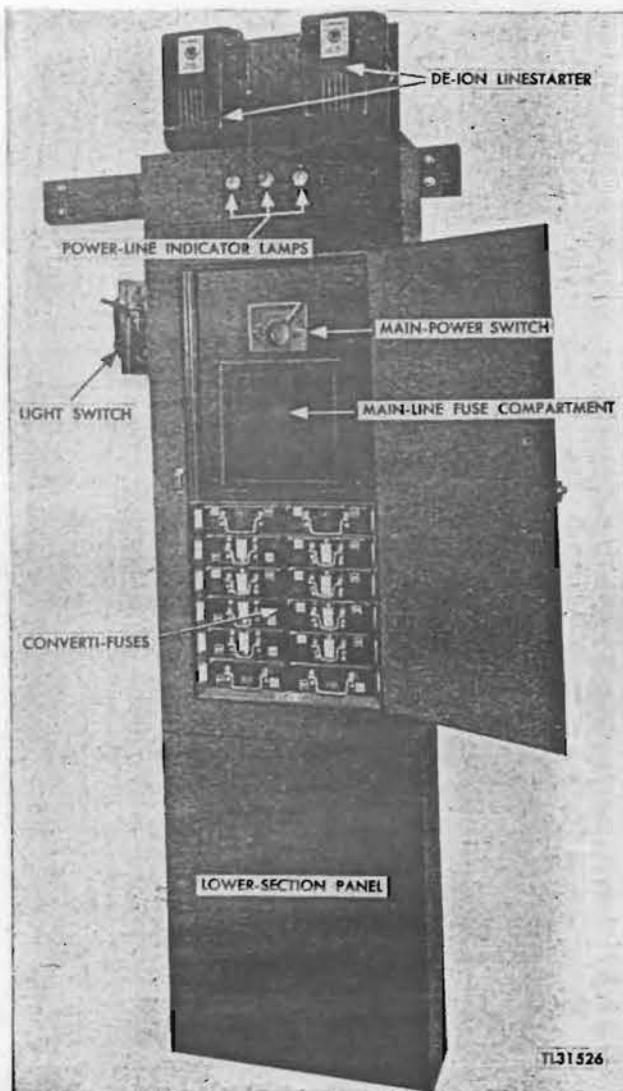

Figure 169. Power distribution panel Radio Set SCR-271-(*).
a. SAFETY PRECAUTIONS. (1) Throw the main power switch to the OFF position.
(2) Remove the three main-line fuses.
(3) Do not place the hands under the upper side of the main fuse compartment.
c. LOCATION. The power panel (fig. 169) is mounted on the wall of the transmitter room to the right of the keying unit.
d. MAINTENANCE PROCEDURE; PREPARATORY STEPS: (1) Open the outer door of the power distribution panel.
(2) Throw the main power switch to the OFF position.
(3) Open the inner door of the main fuse compartment.
(4) Remove the three main-line fuses.
(5) Using a screwdriver, remove all screws from the lower section of the power distribution panel (fig. 169) and remove the panel.
(1) The insulated covering of all cables and leads for cracked or deteriorated conditions.
(2) The terminal blocks for cracks or breaks.
(3) All leads to the terminal blocks for loose or broken connections.
(4) The ground bus bar located above the three terminal blocks. Be sure that it is mounted securely.
(5) The bakelite mountings supporting the ground bus bar, for cracks or breaks.
(6) All leads fastened to the ground bus bar for loose or broken connections.
(7) The tightness of the three leads fastened to the lower ends of the three-phase terminals. These terminals are located directly above the ground bus bar.
(8) Bakelite cases of the converti-fuses. Remove from their receptacles each of the converti-fuses from 1 through 12 (fig. 169), and inspect the bakelite cases for cracks or breaks. Make sure that all terminals are mounted firmly and are free from dirt and corrosion. Remove each cartridge fuse from the converti-fuse cases and check the fuse-holder clips for proper tension. Make sure that the clips are mounted firmly and are free from dirt and corrosion. Check cartridge fuse and terminals for corrosion.
(9) All terminals in the converti-fuse receptacles. Examine for dirt and corrosion. Check all receptacles for loose or broken terminals.
(10) The spring clips of the main-line fuse holders. Make sure that each is mounted firmly and is free from dirt and corrosion.
(11) Using one of the main fuses, insert one end of the fuse into each spring clip and test for proper tension.
(1) All dust and dirt from the main-line fuse compartment using the air blower, paint brush, and cleaning cloth. Use sandpaper to remove any rust spots and paint over any exposed metal parts with black metal paint.
(2) The twelve converti-fuse cases. Remove the twelve cases. Using the air blower, paint brush, and cleaning cloth, remove all dust and dirt from the converti-fuse compartments, or receptacles. Having cleaned the fuse cases return them to their proper receptacles.
(3) All dust and dirt from the lower compartment of the distribution panel using the air blower, paint brush, and cleaning cloth.
(4) All panels and doors with a clean cloth. Remove any rust spots with sandpaper, and paint the exposed metal parts with black paint. Replace the lower panel.
(5) The three glass jewels of the indicator lamps. Remove and clean with the cleaning cloth. (See fig. 169.)
(6) The three pilot bulbs. Remove and clean with a cloth. After cleaning, replace the three indicator bulbs and glass jewels.